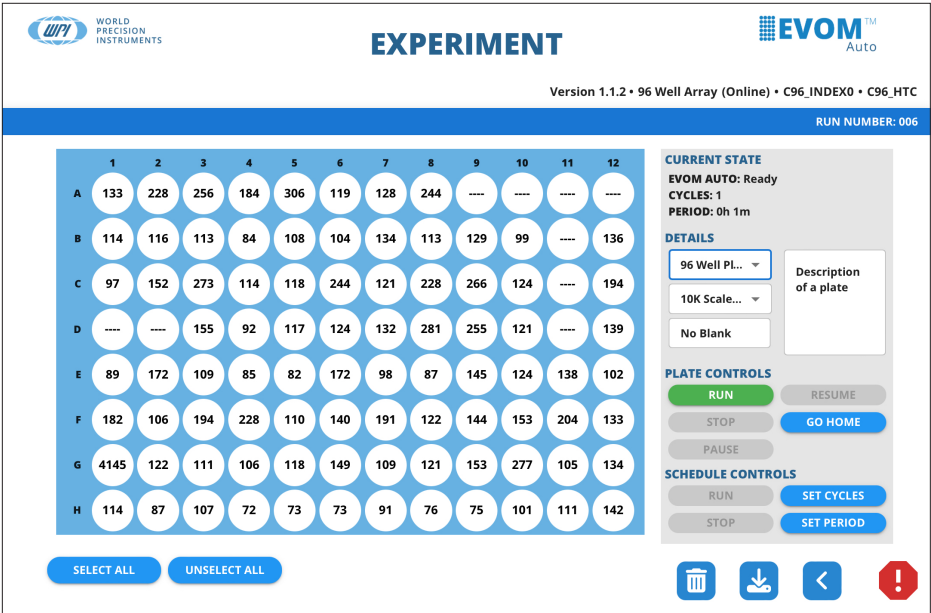

Fig. 44—The *Experiment* window appears. This example shows a 96-well plate option.
1. Select *Experiment* from the main menu. The *Experiment* window appears (Fig. 44).